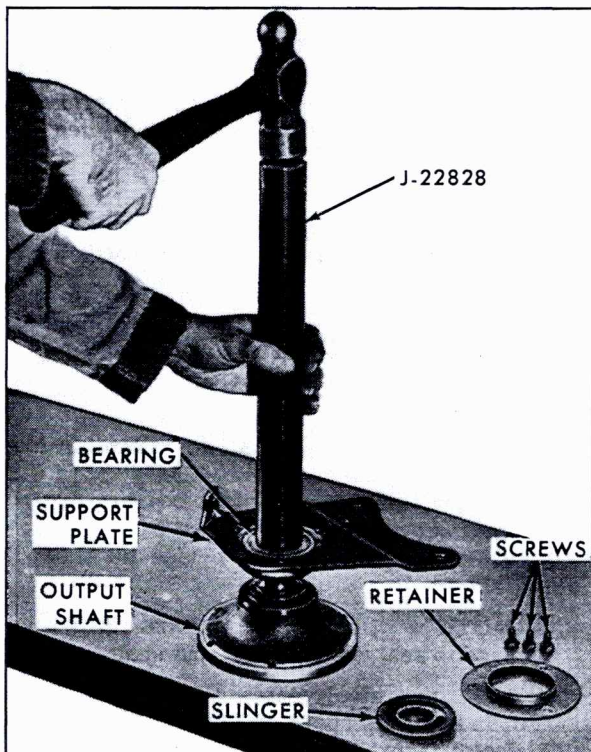

Fig. 3-73 Installing Right Hand Output Shaft Support and Bearing
1. Position output shaft on flange end on a work bench, Fig. 3-73.
3. Lubricate bearing and install, using a hammer and Bearing Installer, J-22829, Fig. 3-73.